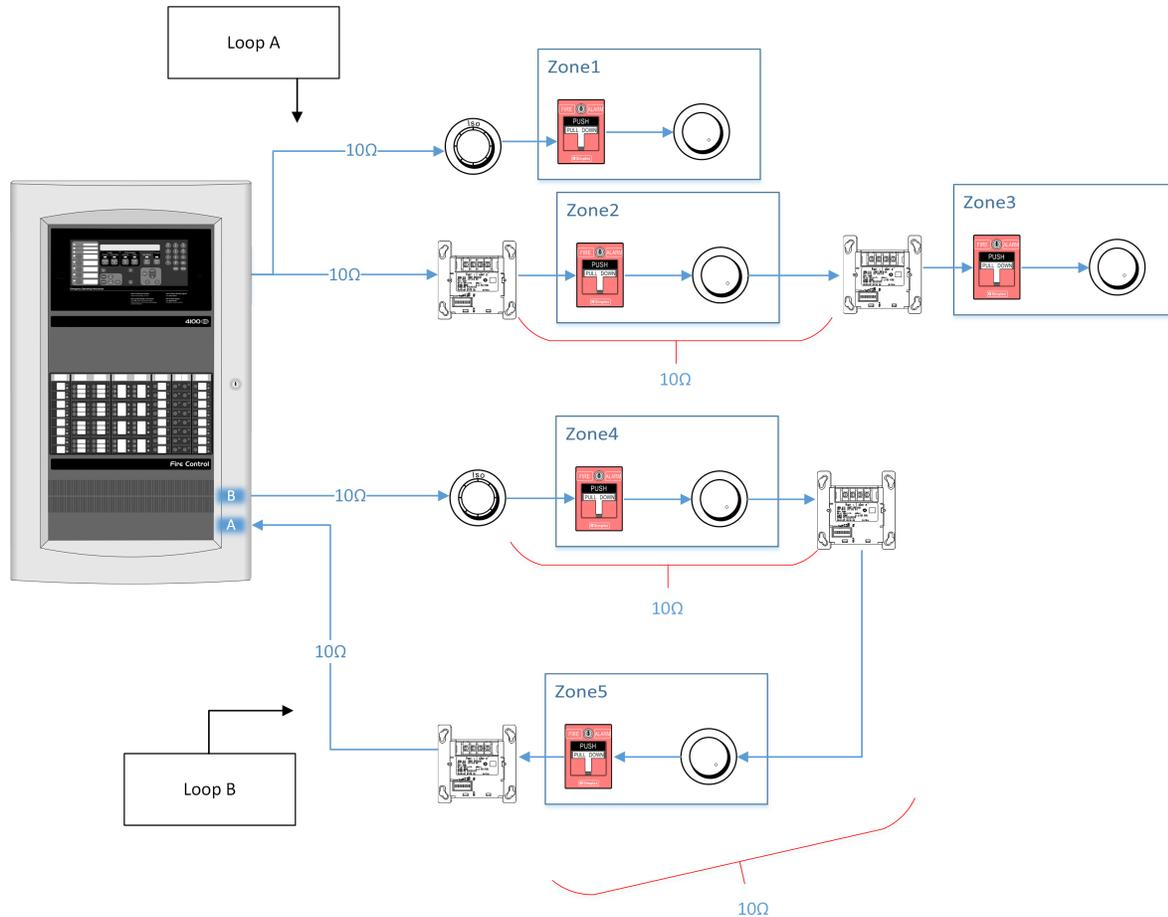

Figure 1: Maximum wire length between isolators is 10 ohm if a 4090-9116, 4098-9777 or 4098-9793 isolator is installed
**Note:** If at least one IDNet Isolator Base (A4098-9777, A4098-9793) or one Addressable IDNet Isolator (A4090-9116) is present on the IDNet channel, the maximum line resistance between the FACU and the isolator and between any two isolators is 10 ohms (780 ft @ 18 AWG). See Figure 1 for an example of a correct application.